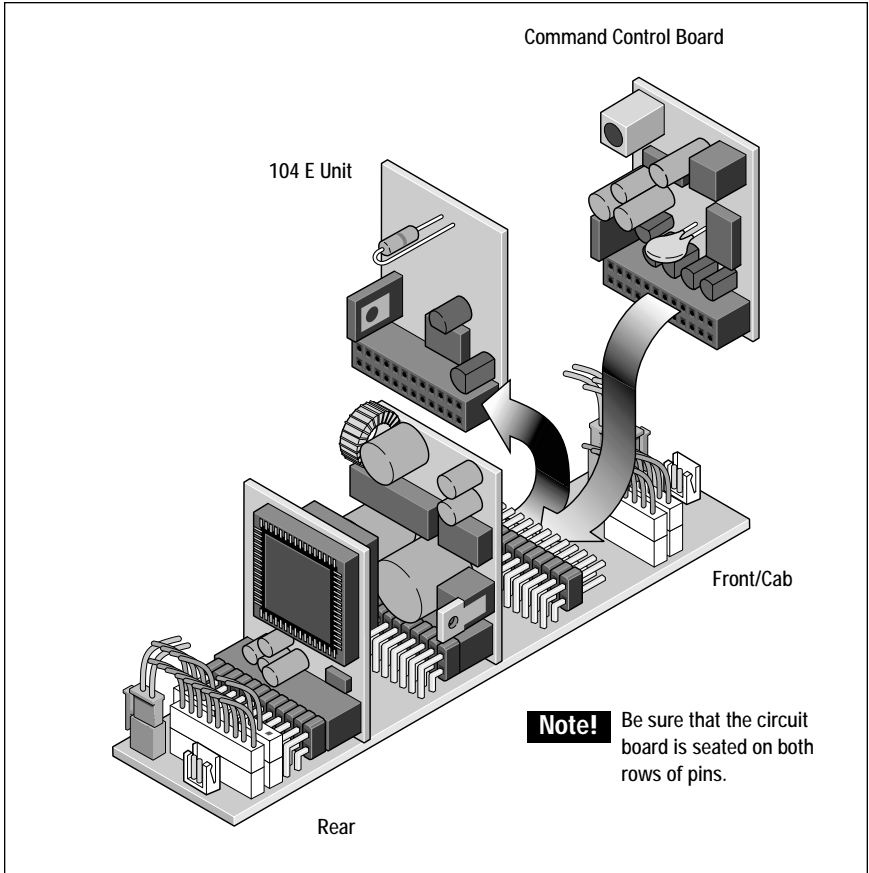

Figure 9. Replacing the 104E circuit board
2. As illustrated in Figure 9, locate and unplug the 104E circuit board from the motherboard.